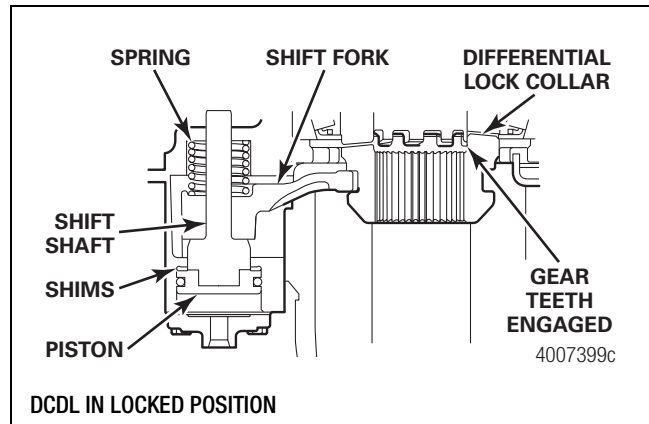

Figure 19
- Check the clearance between the teeth of the clutch collar and the main differential case to ensure there is 0.020-0.040-inch (0.5-1.0 mm) clearance. If necessary, remove the piston and add or remove shims. Reassemble and retest until correct clearance is achieved. Figure 19.